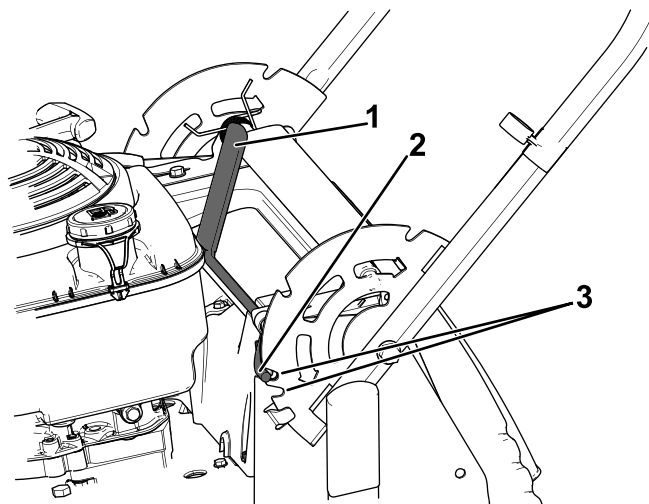

Figure 15
1. Pull the handle-lock lever rearward to disengage the handle-lock pins (Figure 15).
2. Rotate the handle and align the desired notch in the handle bracket to the handle-lock pins; refer to Figure 15.